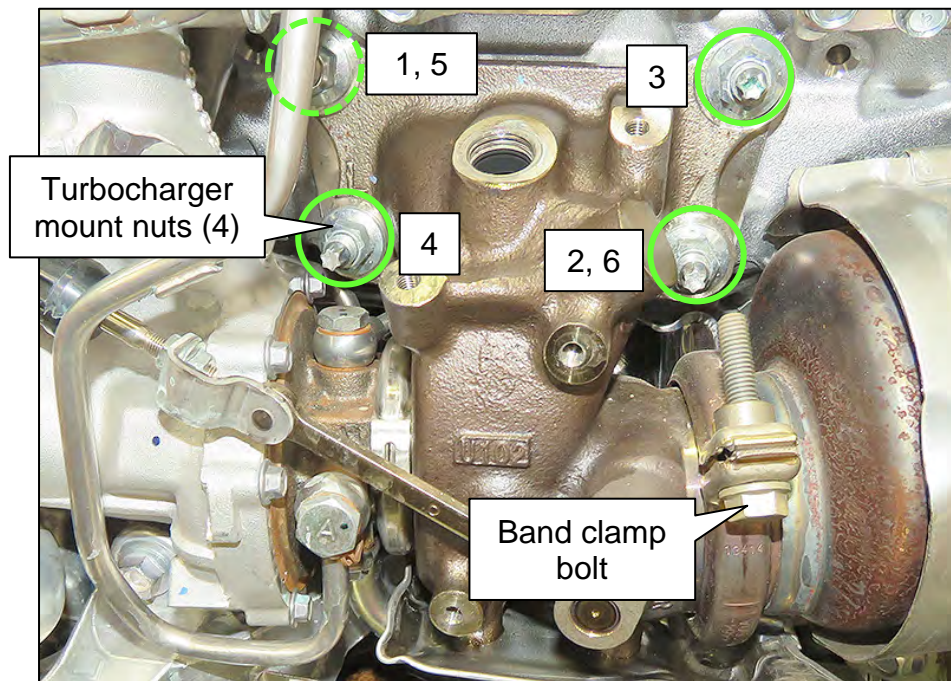

Figure 83
133. Install all four (4) turbocharger mount nuts, and then torque them in the order (from 1 to 6) shown in Figure 83.